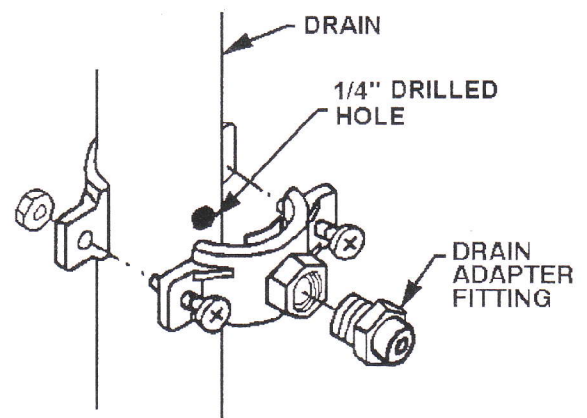

Figure 4. DRAIN ADAPTER
- b. Install the drain adapter fitting. (Figure 4). Hole in drain adapter must line up with hole just drilled in drain pipe.
- (6) Install shut-off valve on side of R.O. storage tank.
- (7) Attach yellow tubing to PRODUCT WATER STORAGE TANK. Fully insert tubing into shut-off valve approximately 1/2", tug on tubing to make sure tubing is installed properly.
- (8) Make sure all tubing connections have been completed and then open cold water shut off valve. Check for leaks and correct as necessary.